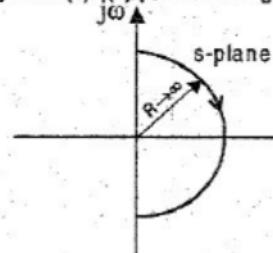
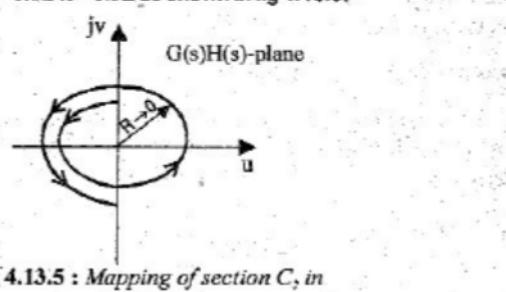

Fig 4.13.4 : Section C₂ in s-plane
Fig 4.13.5 : Mapping of section C₂ in G(s)H(s)-plane
From the equations (1) and (2) we can say that section C₂ in s-plane (fig 4.13.4.) is mapped as circular arc of zero radius around origin in G(s)H(s)-plane with argument (phase) varying from $-3\pi/2$ to $+3\pi/2$ as shown in fig 4.13.5.